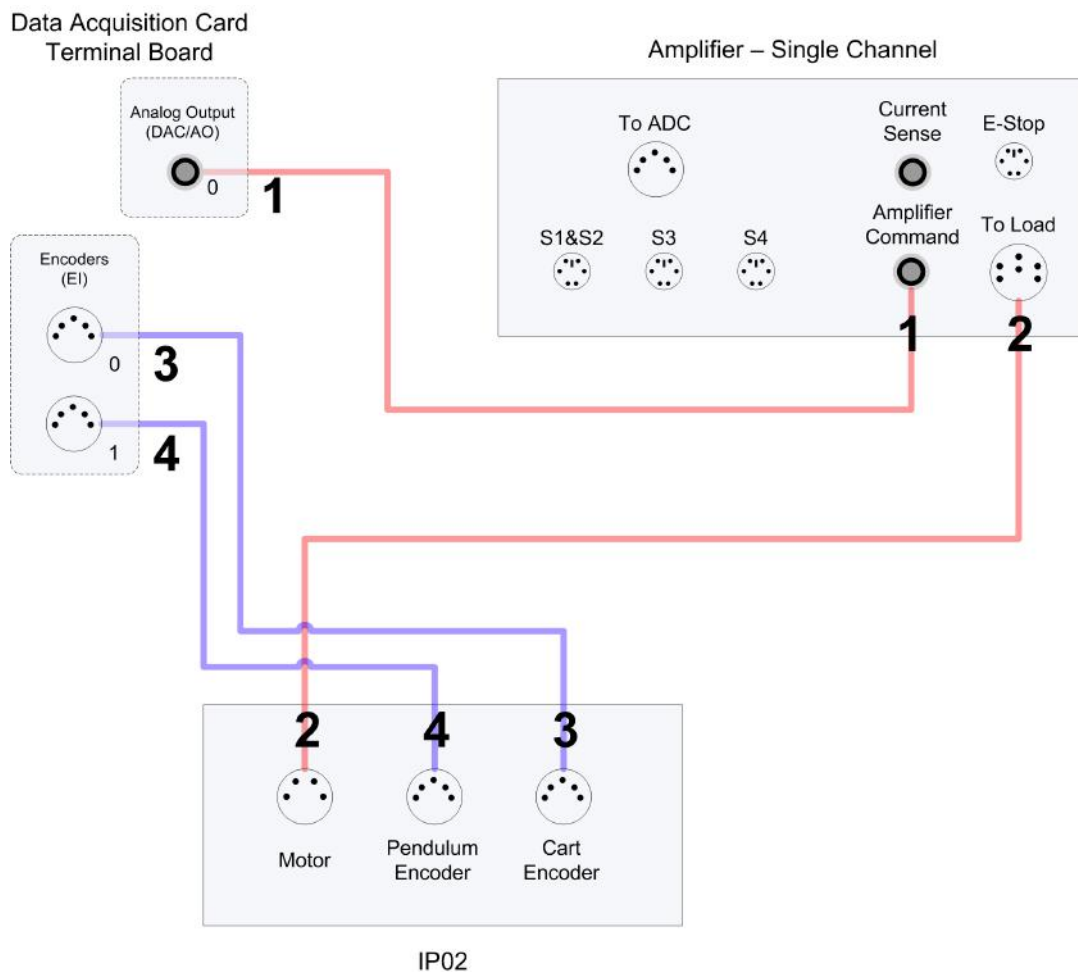

Figure 4.1: Connecting the IP02 to a Single-Channel Amplifier and Two-Channel DAQ
This section describes the typical connections used to connect the IP02 plant to a data-acquisition board and a power amplifier. The connections are described in detail in the procedure below, summarized in Table 4.2, and pictured in Figure 4.1.
Note: The wiring diagram shown in Figure 4.1 is using a generic data acquisition device. The same connections can be applied for any data-acquisition system that has at least 1x analog output, and 2x encoder inputs.
3. Connect one end of the 2xRCA to 2xRCA cable from the Analog Output Channel #0 on the terminal board to the *Amplifier Command* connector on the amplifier, i.e. use both white or both red RCA connectors. See cable #1 shown in Figure 4.1. This carries the attenuated motor voltage control signal, V_m/K_a , where K_a is the amplifier gain.
4. Connect the 4-pin-stereo-DIN to 6-pin-stereo-DIN that is labeled from *To Load* on the amplifier to the *Motor* connector on the IP02. See connection #2 shown in Figure 4.1. The cable transmits the amplified voltage that is applied to the SRV02 motor and is denoted V_m .
5. Connect the 5-pin-stereo-DIN to 5-pin-stereo-DIN cable from the *Cart Encoder* connector on the IP02 panel to Encoder Input # 0 on the terminal board, as depicted by connection #3 in Figure 4.1. This carries the cart position measurement.
6. Connect the 5-pin-stereo-DIN to 5-pin-stereo-DIN cable from the *Pendulum Encoder* connector on the IP02 panel to Encoder Input # 1 on the terminal board, as depicted by connection #4 in Figure 4.1. This carries the pendulum angle measurement.